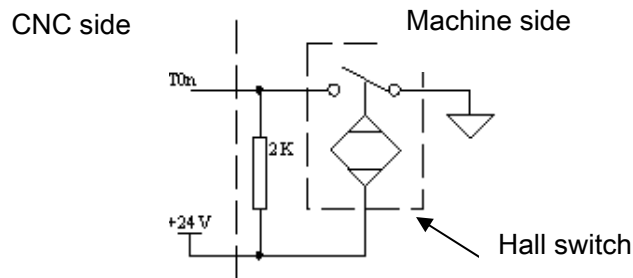

Fig. 2-37
3. The external circuit of the tool number signal is shown in Fig. 2-37, when the tool number signal is low level active, it requires an external pull-up resistor.